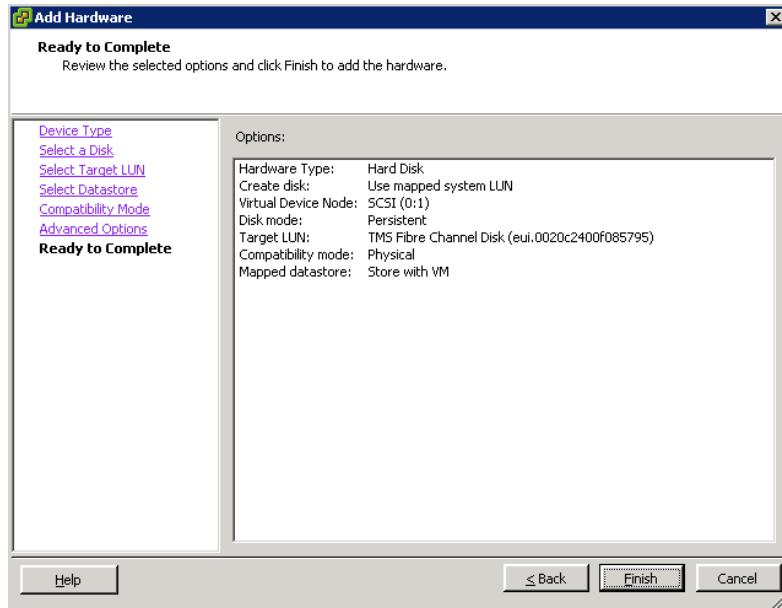

Figure 5-28. Add Hardware—Ready to Complete
13. Review the disk settings, and then click **Finish** to complete the configuration (Figure 5-28).